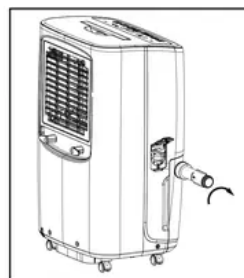

fig. 5
- Screw the drainage adapter onto the threaded portion of the drainage connector of the unit securely. (fig.5&6)